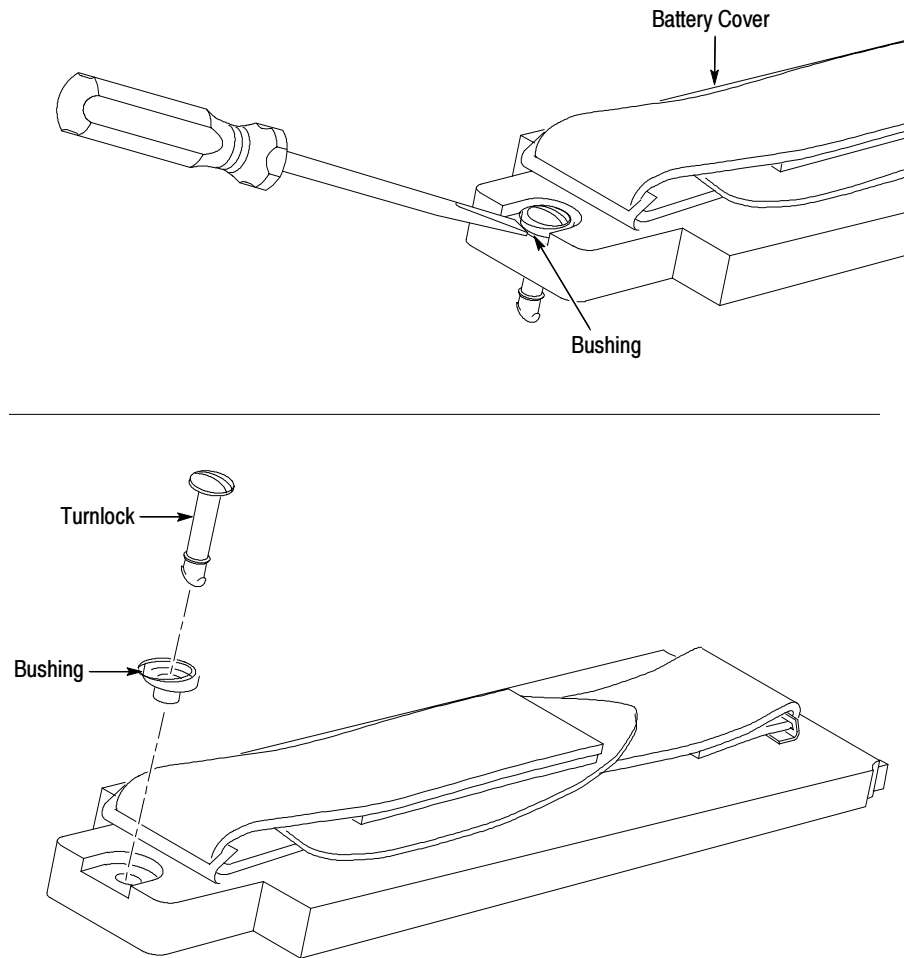

Figure 6-9: Removal and replacement of the turnlock stud
2. Gently pry up on the outside portion of the bushing as shown in Figure 6-9.